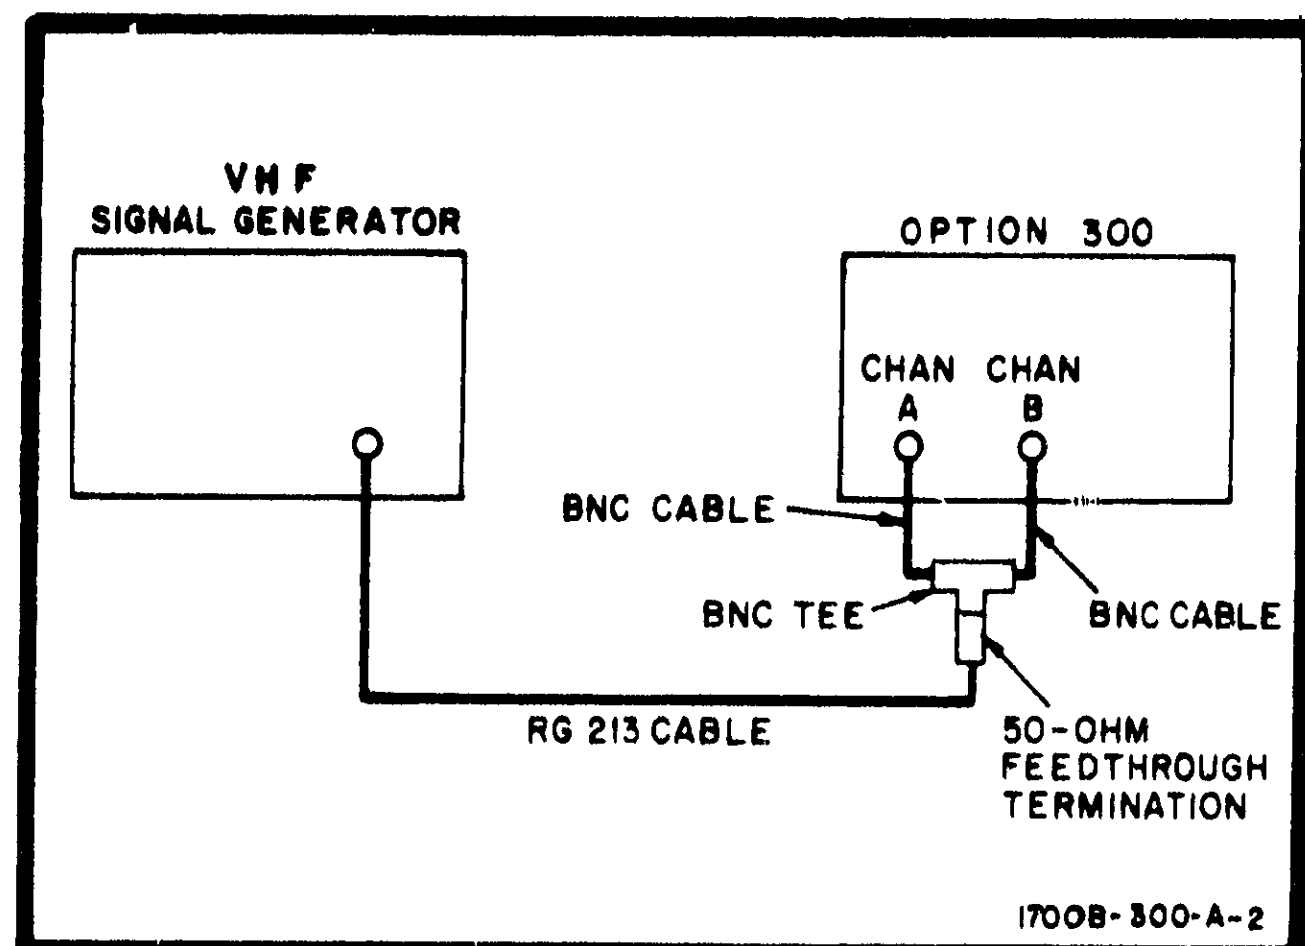

Figure 5-5. CMRR Test Setup
- a. Connect instruments as shown in figure 5-5.